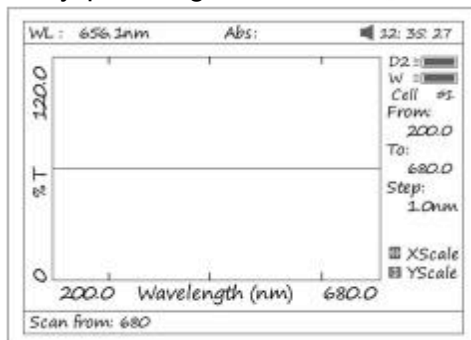

Fig 42
1. Press **【F1】** to setup, input the start wavelength, and end wavelength by pressing the numeric keypad (Fig 42). Note: This instrument scans from high to low wavelength. Browse and select the items of scan step and scan speed by pressing **【^】** or **【V】**.